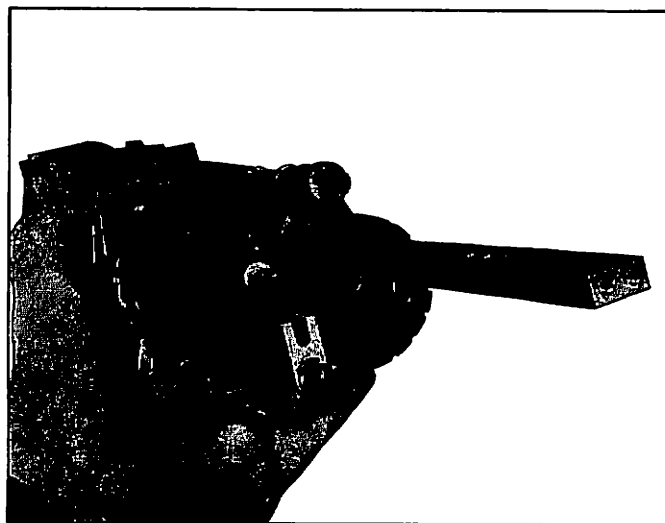

Figure 22. Preparation For Side Plate Installation.
- c. Engage pin on reset lever group with slot in reset arm. See Figure 22.
- a. Hold meter register assembly as shown in Figure 22 and place a rubber band around the assembly to hold it together. Be sure the pin in the reset lever group remains engaged in the slot in the reset arm.